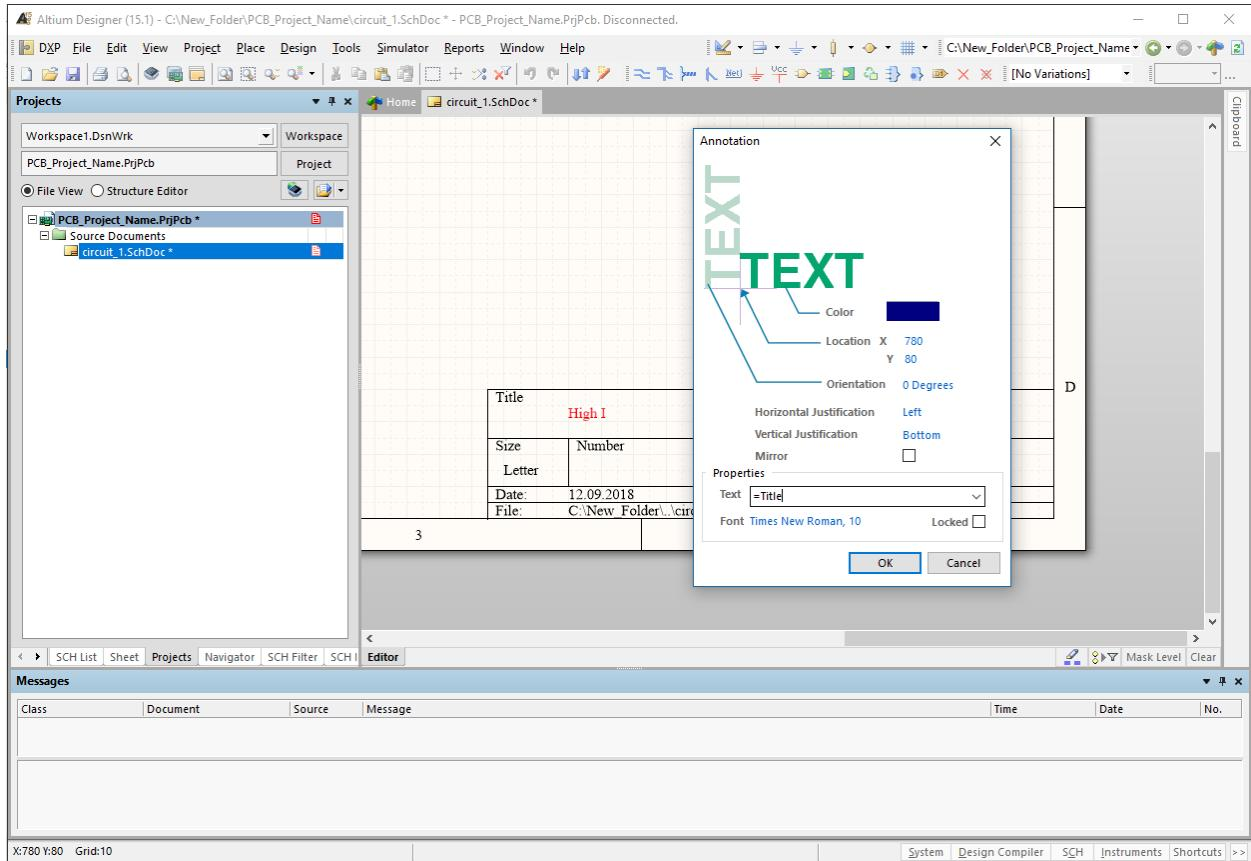
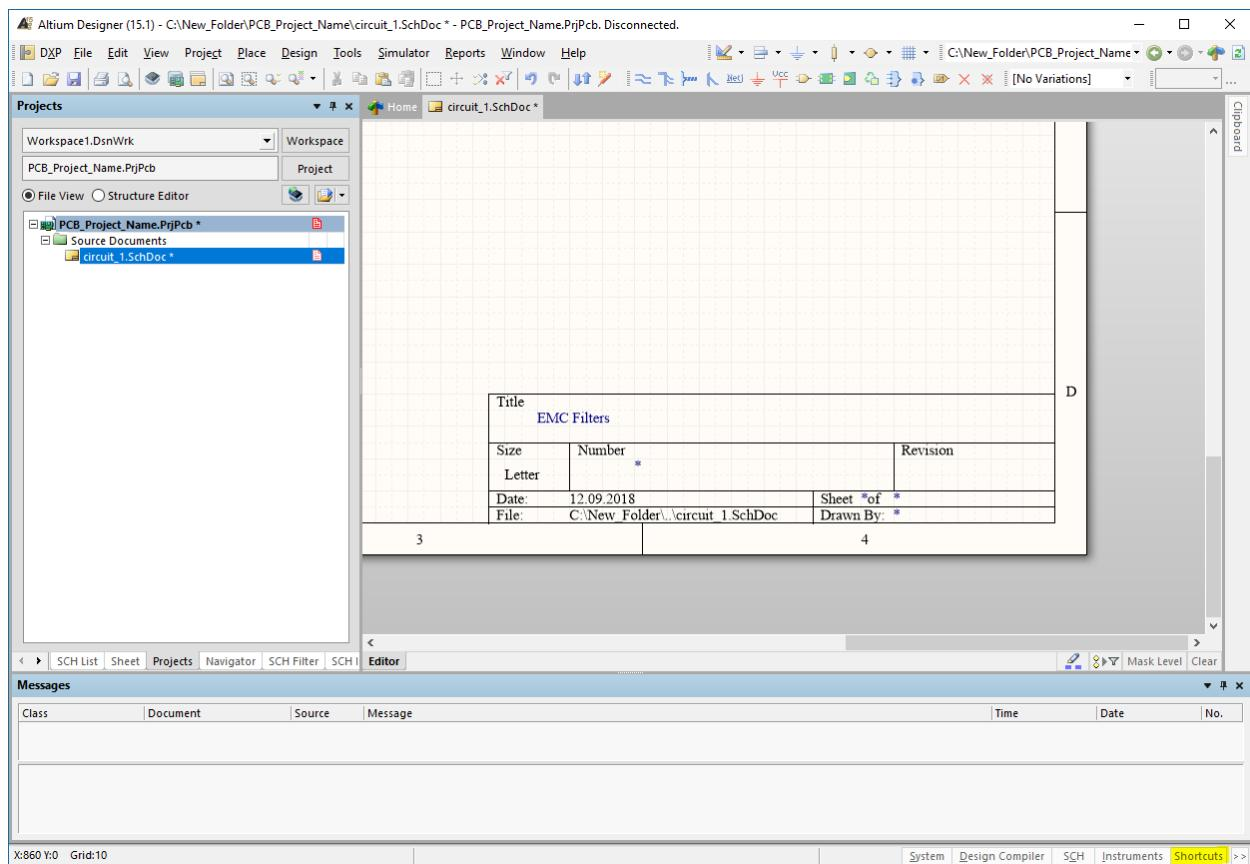

Figure 20: Altium schematic sheet zoomed in on legend.
Figure 21: Altium schematic sheet zoomed in on legend and highlighted shortcut menu.
12. To place the title that we defined in the previous step press P and then T to set a Text String. The Text String dialog pops up and allows you to define the string. To select a parameter start the string with an = sign as shown in Figure 20. Then press ok and place the string under the title. As you noticed now Altium keeps the string so you can place it as many times as you wish, to change the parameter press TAB which brings you back to the Text String dialog so you can change the string. If you have placed all strings press ESC to leave the mode or cancel in the Text String dialog. It should look now similar to Figure 21. Notice that we did not assign a sheet number or sheet total because under menu bar Tools → Number Schematic Sheets.. that will do the job for you or redo it if you expand the number of sheets. I think its important at this place to show you the in build shortcut help which is on the right lower edge of the software highlighted in Figure 21.